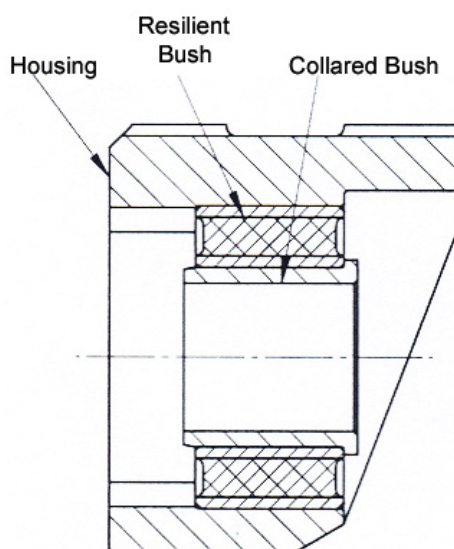

Figure 1: Section of Bearing Housing
3.2.1 Remove collared bush and resilient bush from each bearing housing (see Figure 1) and scrap.
- b) Press fit a bush assembly into each housing, checking that the bush assembly conforms to Figure 1.